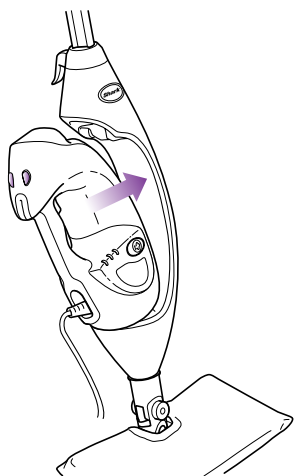

fig. 21
- 1 When you have finished using the **Handheld Steamer**, reattach it to the mop by first placing the bottom of the **Handheld Steamer** into the cradle of the mop housing. (**fig. 21**)